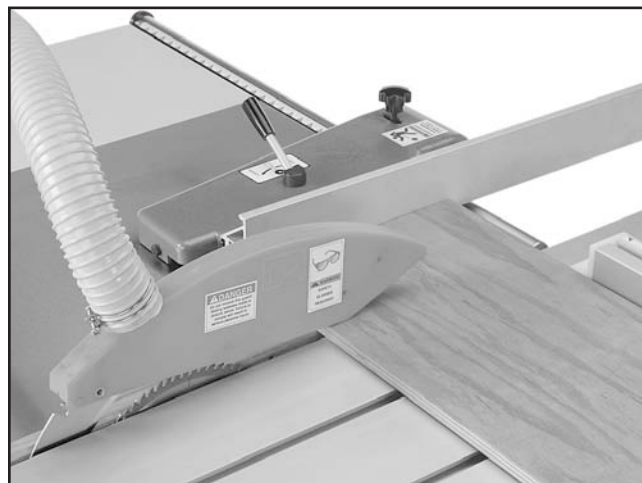

Figure 82. Crosscutting workpieces using the rip fence as a cut-off gauge.
Lastly, this machine has the capability of crosscutting workpieces while using the rip fence as a cut-off gauge (**Figure 82**).
4. Load the workpiece onto the table saw. The setup should look similar to **Figure 82**.